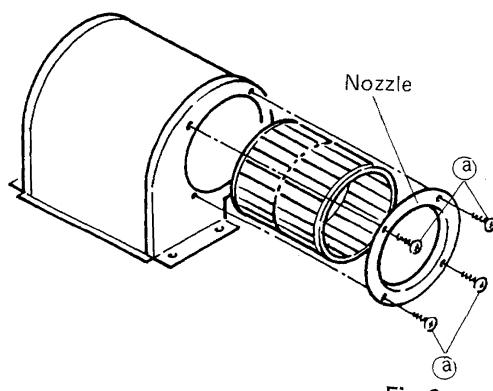

Fig.9
- 6) When the four screws (a) around the nozzle circumference are removed as shown in the figure, the fan can be removed. Fig.9